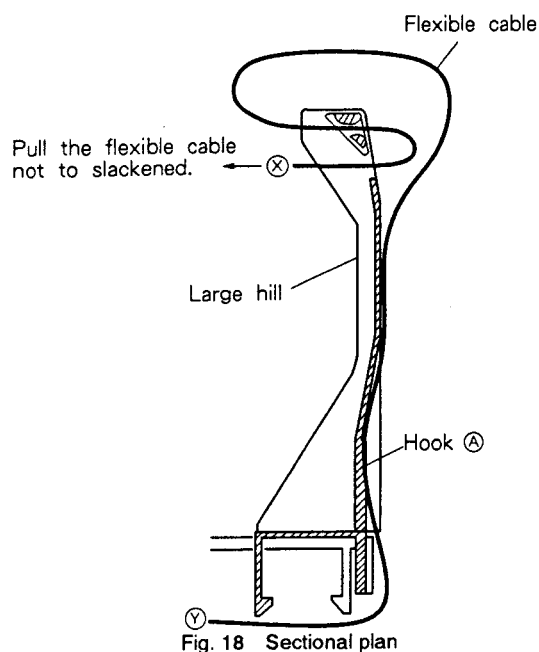

Fig. 18 Sectional plan
- ④ Pull the flexible cable not to slackened after passing the X edge side of flexible cable through the large hill as shown in Fig. 18.